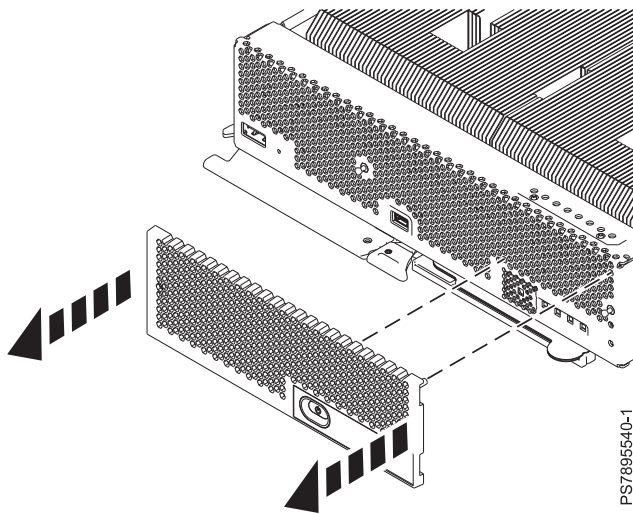

Figure 8. Removing the bezel assembly from an IBM Flex System p24L Compute Node
4. Locate the bezel on the right-front side of the compute node. Holding both sides of the bezel assembly, pull the bezel assembly away from the compute node as shown in Figure 8.